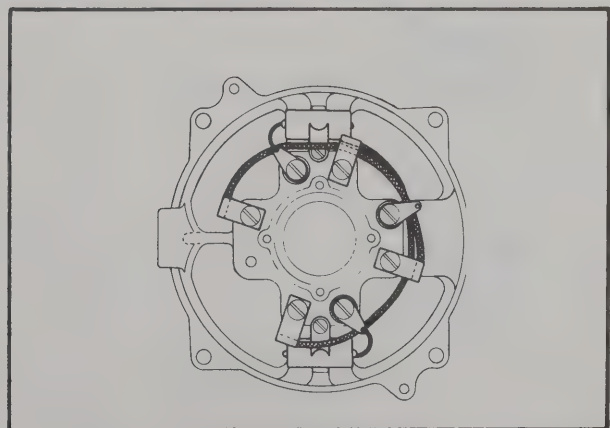

Figure 9-2. DC End Shield Assembly
c. Assemble four brush holder assemblies to the DC end bell (36). Two bushings (32) are used at each mounting hole of the two insulated brush holder assemblies as indicated in figure 9-2. Secure all capacitor assemblies to DC end bell (36, figure 4-6) with a capacitor